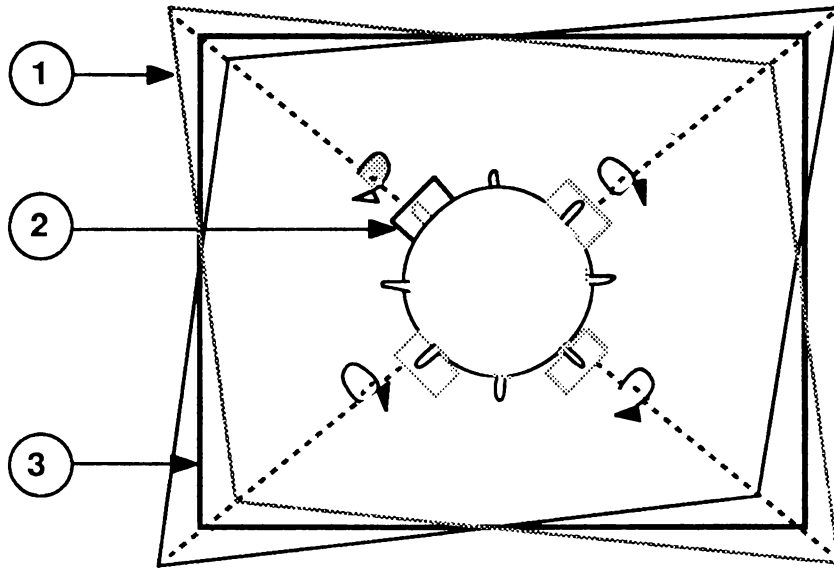

FIGURE 9
3. Rotate the magnet to obtain the desired raster, see Figure 9, #3.